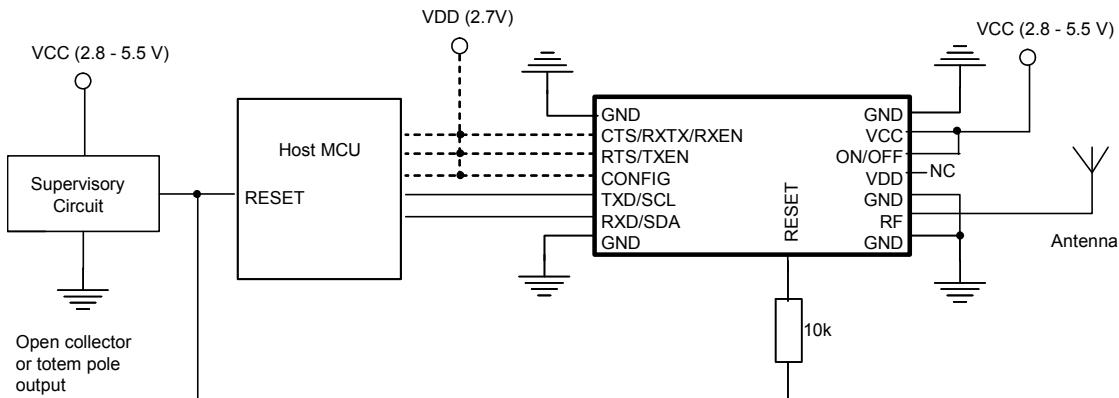

Figure 4. Reset circuit using supervisory circuit on VCC
- If the host system already has an external POR and brown-out supervisory circuit, this can also be used to control the module RESET. The supervisory circuit should be connected between VCC (or the MCU supply voltage if different) and GND, controlling RESET through a 10k resistor. This solution will force RESET low as long as VCC is below the threshold voltage. The RESET has an internal pull-up resistor to VDD, thus an open-drain output supervisory circuit can be used. A threshold voltage of 2.8 V or higher is recommended. See Figure 4. Supervisory circuits are suggested below.